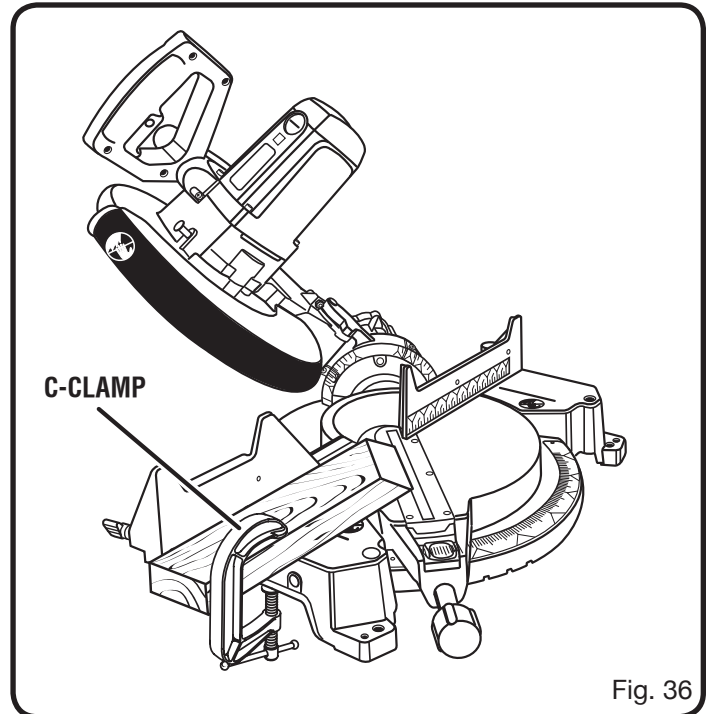

Fig. 36
- Grasp the stock firmly with one hand and secure it against the fence. Use the optional work clamp or a C-clamp to secure the workpiece when possible. *See Figure 36.*
- Slowly lower the blade into and through the workpiece. *See Figures 36 - 37.*